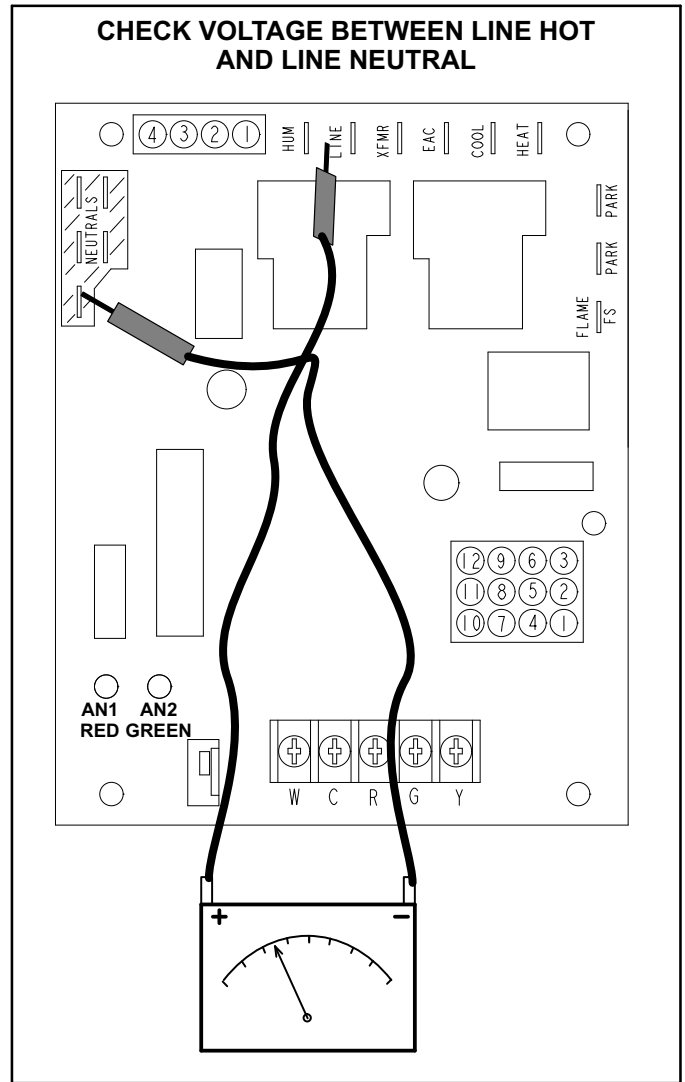

FIGURE 16
- 2 - In addition, measure the AC voltage from Line Hot to Line Neutral (spade terminals) on the integrated control. See figure 16. This voltage should be in the range of 204 to 264VAC.